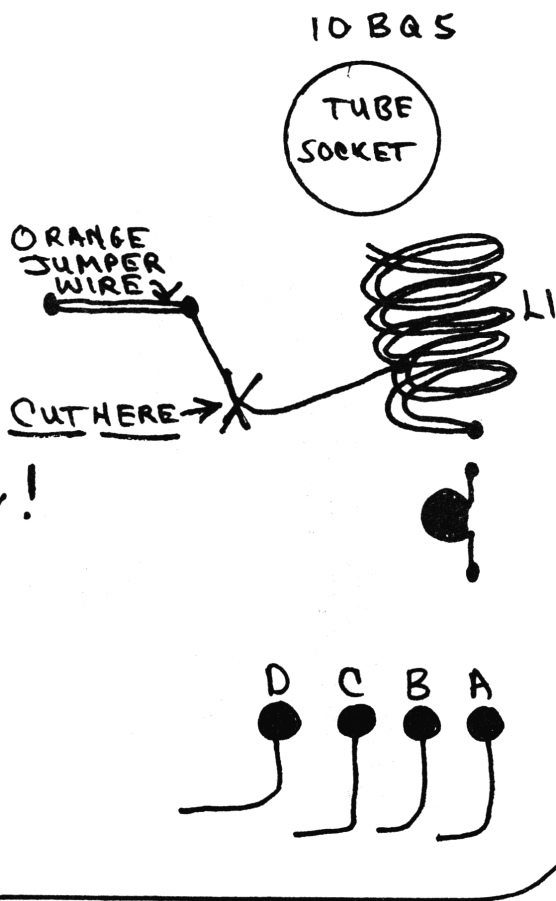

Fig. 4
4. With the unit facing you, there is a small silver coil in the back right side, by the antenna relay. There is a small silver wire soldered to the middle of the coil, which goes to the board. Cut this wire, indicated by an "X", (Fig. 4).